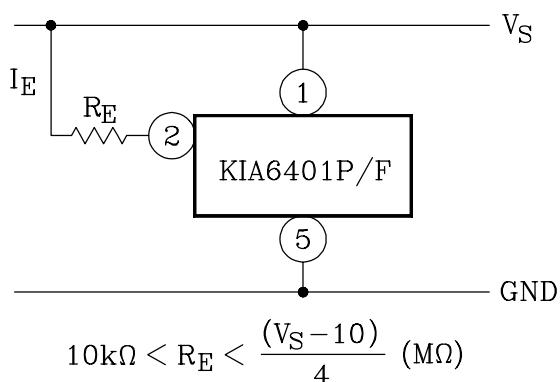

Fig. 2a
Oscillation can be started under a lower supply voltage than the initiation supply voltage at the time when PIN② is used at an open state as shown in Fig. 2a.